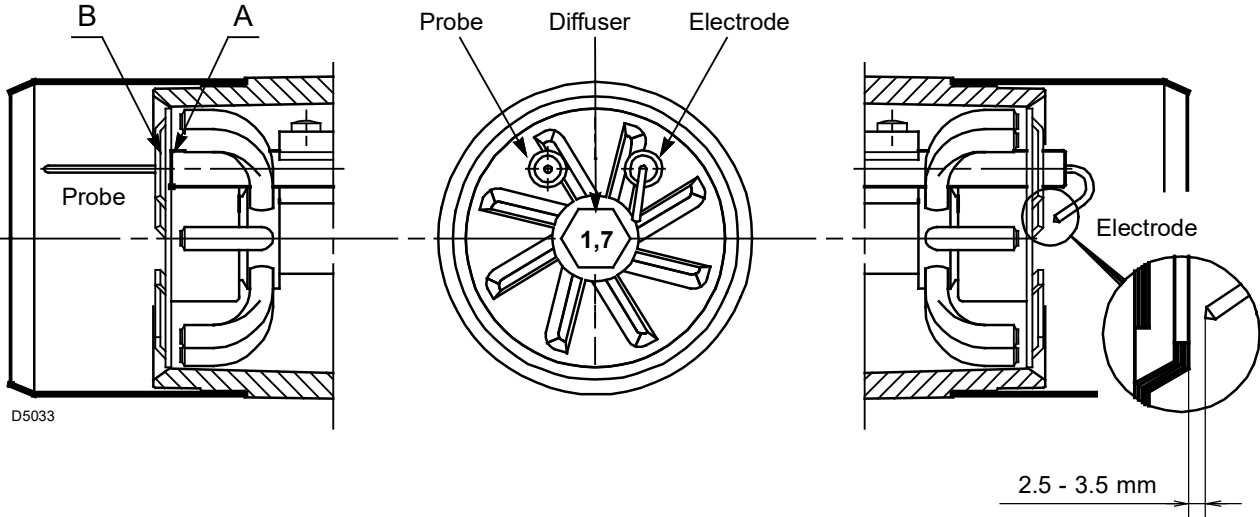

Fig. 11
Do not turn the ignition electrode but leave it as shown in Fig. 11.
Place the ceramic part of the electrode (A) against the diffuser disc (B)(Fig. 11).